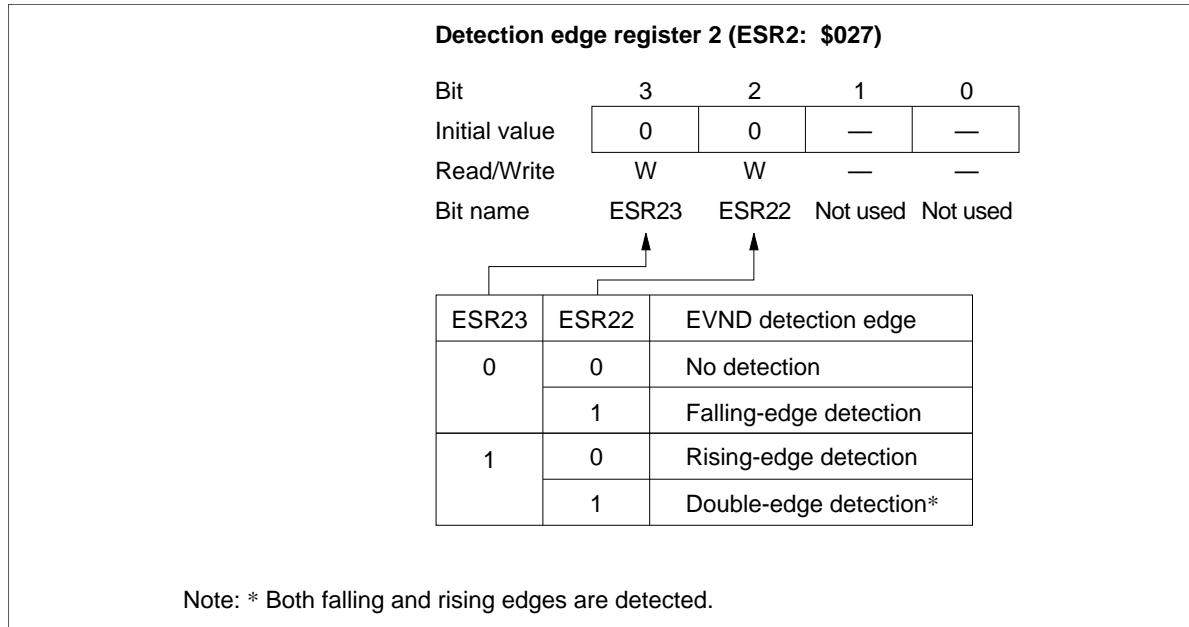

Figure 66 Detection Edge Select Register 2 (ESR2)
- Detection edge select register 2 (ESR2: \$027): Write-only register that selects the detection edge of signals input to pin EVND (figure 66). It is reset to \$0 by MCU reset.